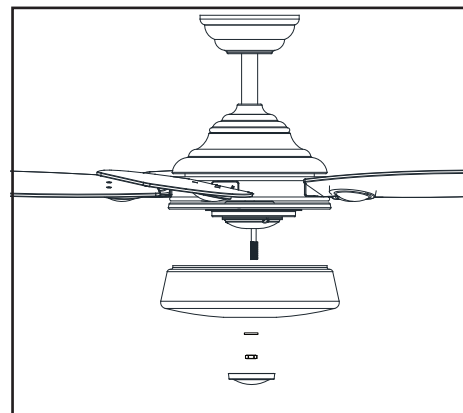

Figure 15
5. Remove the rubber washer, hex nut and finial from the threaded nipple of the light kit fitter assembly. Position the glass bowl over the threaded nipple. Re-install the rubber washer, hex nut and finial to the threaded nipple to secure the glass bowl properly. (Figure 15)